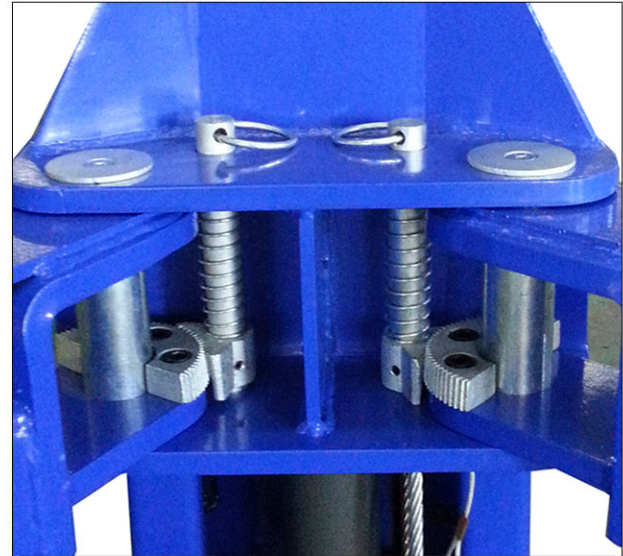

Fig. 35
- ◆ Press the up push button, raise the carriages to a height of about 70cm off the ground, then press the lock push button, **SET THE MAIN SWITCH (IG) TO POSITION 0 AND CUT OFF THE POWER SUPPLY TO THE LIFT.**
- ◆ Mount the arms into the carriage supports and insert the dowel pins into the support holes as shown in *Fig. 35*. Notice the entry of both arms is the same with the entry of the vehicle.